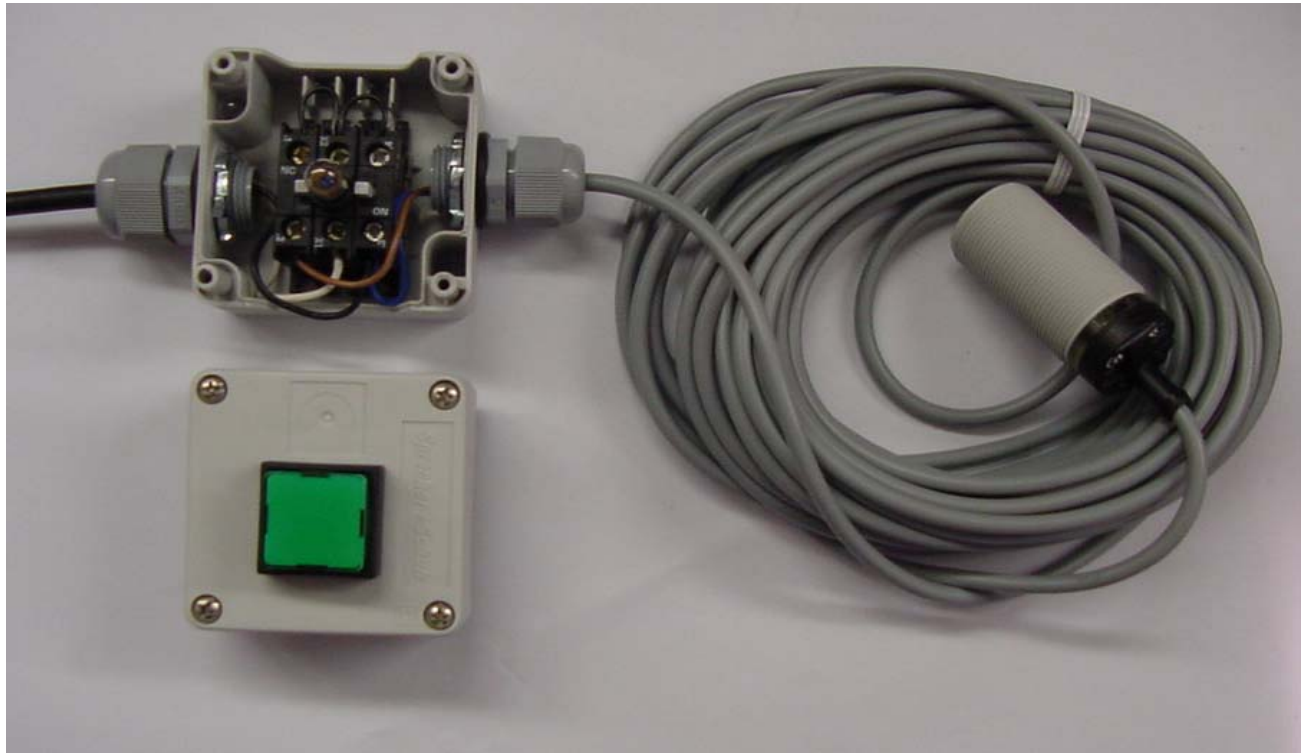

Figure 7.9
7.9.1 The leak detector unit consists of a proximity sensor, 2 in. FPT fitting connection, 2 in. bung plug, 3/4 in. strain relief, and an indicator box. Install the 3/4 in. strain relief into the 2 in. bung plug. Loosely install the proximity sensor cord into the strain relief with the sensor face to the inside of the plug assembly. Place the sensor in the interstitial space between the primary and secondary tanks approximately 1 in. above the tank bottom and securely tighten the strain relief to hold the sensor and sensor cord into position. Remove the indicator box cover. Attach the indicator box to the PE mounting plates provided on the tank with the 2 ea. #10 S.S. self-tapping screws. Attach the sensor cable to the control box with small strain relief and connect wires per label in the box. Please see Figure 7.9. Connect unit to 110 VAC per label in the box using strain relief provided or other acceptable methods and test the unit. The indicator box will show a green light when power is on and the sensor is not detecting a liquid. The light is a push to test light allowing the operator to test for power outage or malfunction. If the green light goes out there are two possibilities. If the green light does not come on when the button is pushed, this would indicate a lack of power to the unit or the light bulb is burned out. If the green light comes on when pushed, then a possible leak condition is indicated.